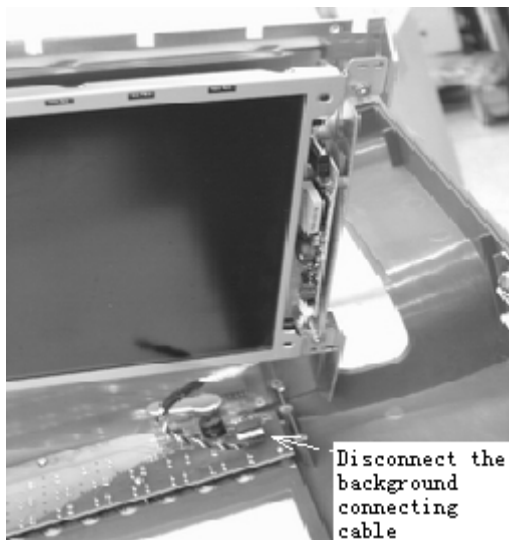

Figure 5-74
5. Screw off the 7pcs screws that fix the TFT bracket, disconnect the backlight cable (Figure 5-74)